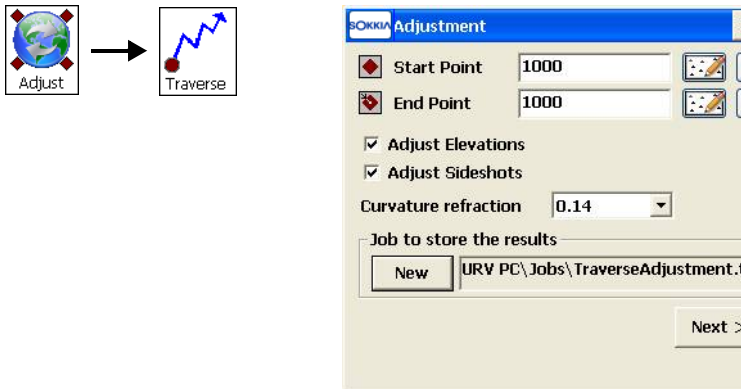
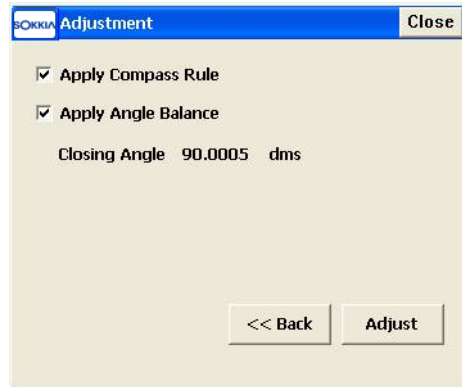

Figure 10-27. Traverse Adjustment
Figure 10-28. Adjustment
1. On the first *Adjustment* screen (Figure 10-27), select initial data for traverse adjustment: the stations on which the traverse originates and closes, whether to adjust elevations and sideshots or not, an Earth curvature value, and a job to store adjusted traverse stations. Then tap the **Next** button. The second *Adjustment* screen displays (Figure 10-28 on page 10-25).
2. On the next *Adjustment* screen (Figure 10-28 on page 10-25), select the method of traverse adjustment to apply (check and enable either *Apply Compass Rule* or *Apply Angle Balance*), and a technique to close the traverse if it is unclosed.